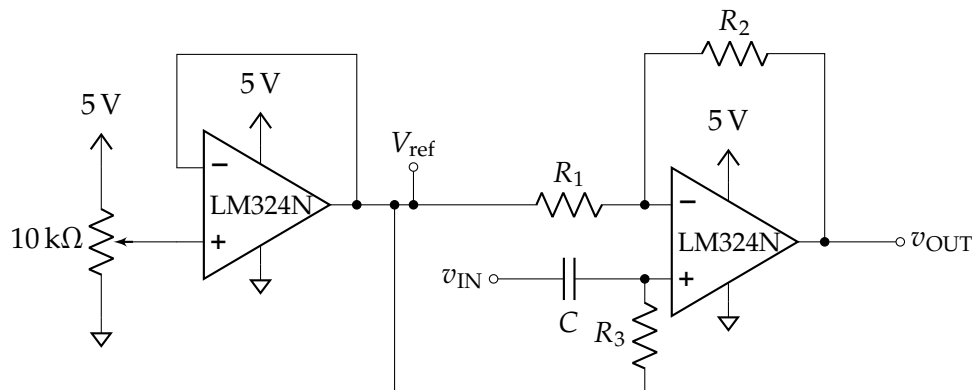

Figure 13.13: Corrected Single Supply High Pass Filter
7. **EC:** Construct the additional buffer circuit for V_{ref} shown in figure 13.13.